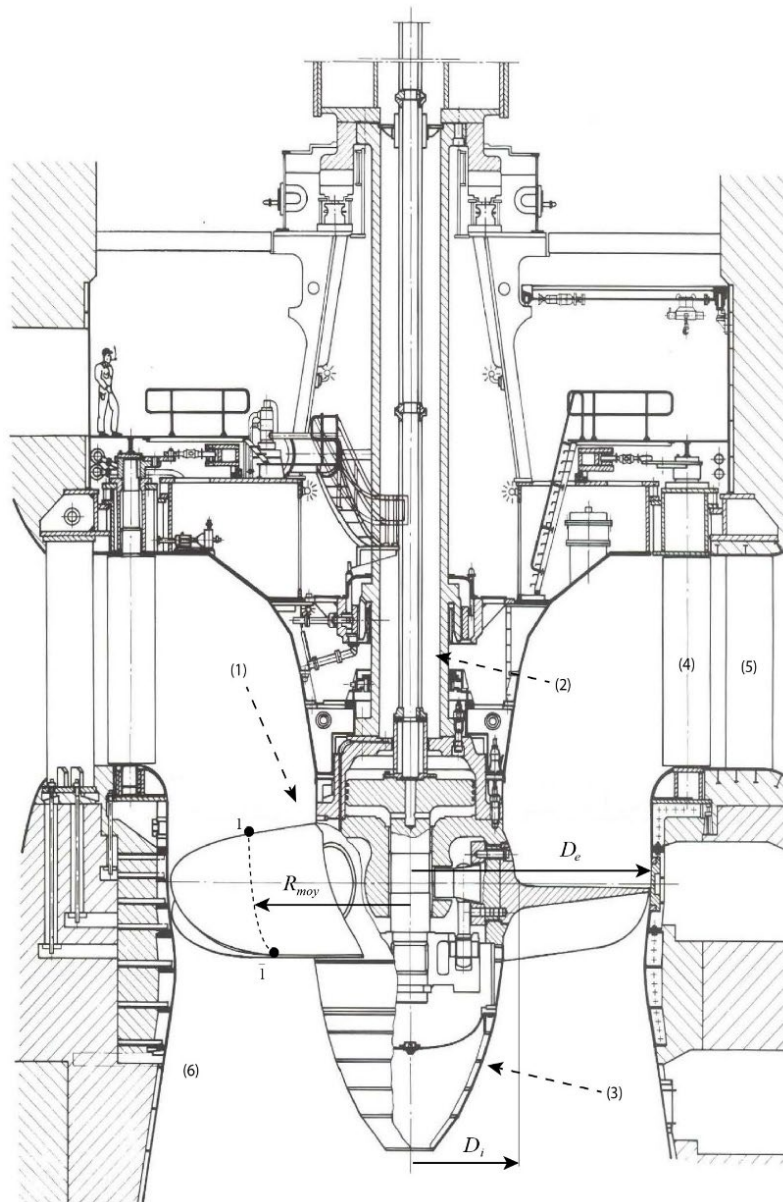

Figure 1 – Kaplan turbine unit from Gezhouba power plant.
The Gezhouba power plant is located in the Hubei province, in China, where the frequency of the electrical grid is equal to  $f_{grid} = 50$  Hz. It is equipped with 2 Kaplan turbines of 176 MW and 5 Kaplan turbines of 129 MW. In this problem, we will investigate the 176 MW units. A cut-view of the Kaplan unit is given in Figure 1.
1. Find the adequate name for the power plant components numbered in Figure 1: